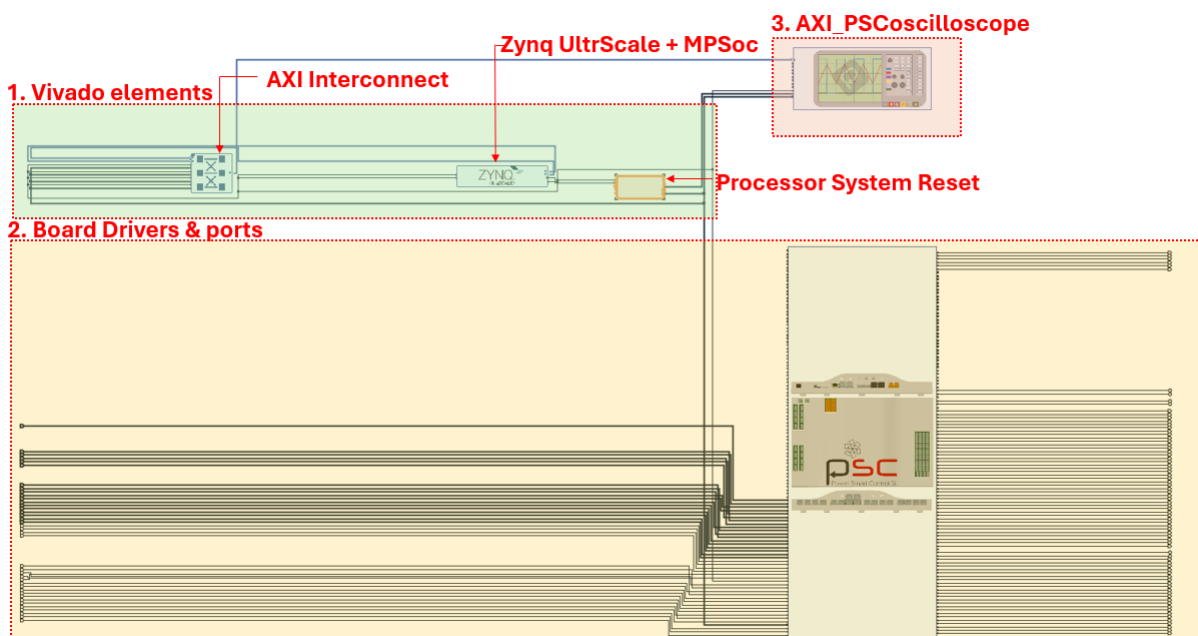

Figure 86: Vivado IP integrator IP blocks after deleting testing blocks.
1. Open SmartRCP_Template project and eliminate the components used for testing purposes leaving only PSC_CarrierBoard_driv IP, IP AXI_PSCoscilloscope and UltraScale blocks. The IP blocks remaining in Vivado project are shown in the figure 86: